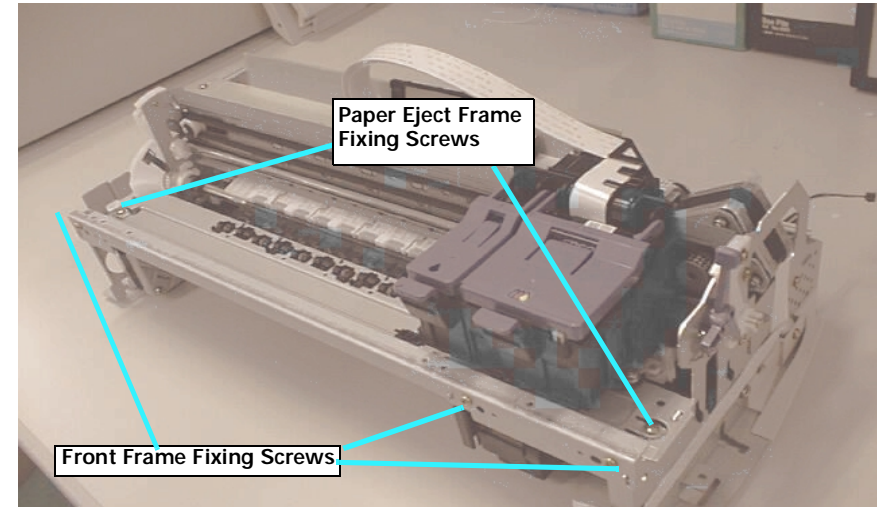

Figure 4-46. Front Frame and Paper Eject Frame Removal
4. Remove 3 screws and remove the Front Frame from the Printer Mechanism. (See Figure 4-46.)
5. Remove 2 screws to remove the Paper Eject Frame from the Printer Mechanism. When removing the Paper Eject Frame from the Printer Mechanism, shift the CR Unit to the CR Shaft left direction by hand and remove it from the Paper Eject Frame toward the front side of the Printer Mechanism. Then shift the CR Unit to the center of the CR Shaft and remove the left side of the Paper Eject Frame toward the front side of the printer. (See Figure 4-46.)